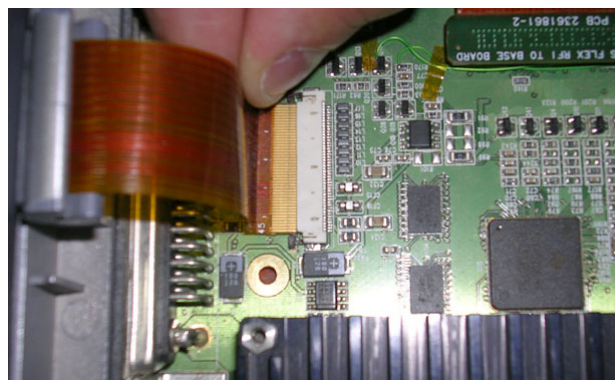

Figure 8-63 Disconnecting the LCD Flex Ribbon Cable
- 5.) Disconnect the LCD Flex ribbon cable from the BEP, as shown in Figure 8-63 below. Use a flat screwdriver to carefully release the cable from the connector.
- 2) Use both hands to re-connect the LCD Flex ribbon cable to the BEP - refer to Figure 8-63 on page 8-53.